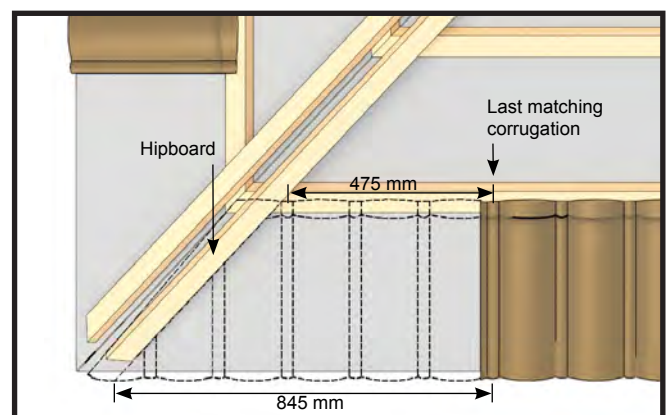

Figure 1.7
To save time marking, cutting and bending each tile, it is best done by two installers - one to measure and the other to write the measurements down on a board or piece of paper as shown (Fig 1.7). To avoid confusion, cut, bend and stack tiles in strict order.
- (i) The basic measurement (recorded on paper or board) is taken from the last corrugation on the bottom corner of the last full tile, to the hip board, along the front edge of the batten (Fig 1.7).
- (ii) Measure and mark on the tiles with chalk or similar, the required measurements taken from the roof, ensuring the MATCHING corrugation of the overlapping tile to be cut, is taken as the measure starting point (Fig 1.7). This forms the BENDING line (Fig 1.9).